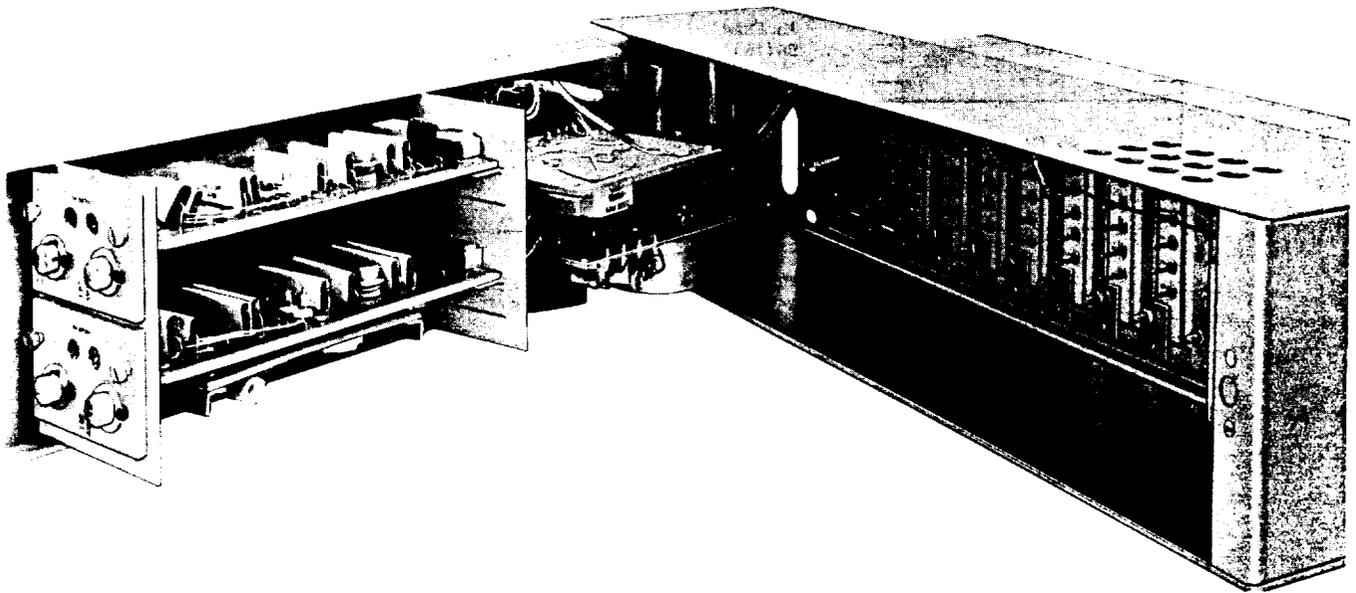

Fig. 5—J68857B Channel Carrier Generator and Filter Unit—Door Open
2.06 The J68857B carrier generator unit is arranged (Fig. 5) to accommodate a spare plug-in 4-kHz amplifier. The spare amplifier, while in the standby condition, operates at reduced output into a dummy load.